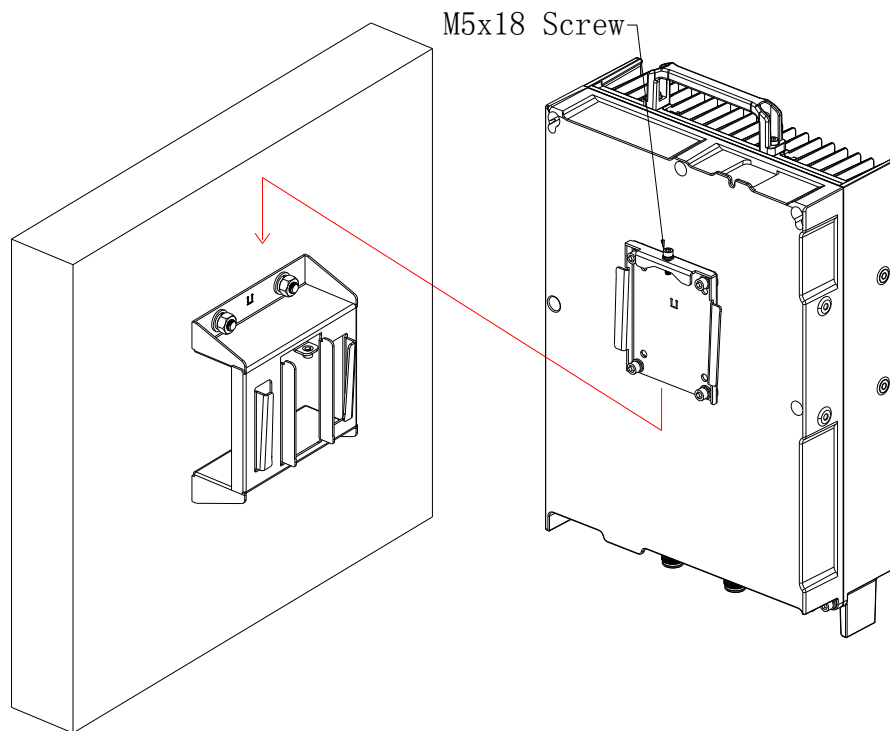
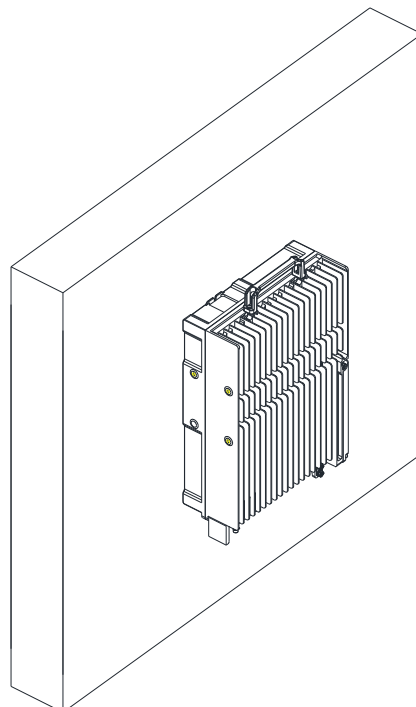

Figure 7 Wall-mounting Installation Diagram
Figure 8 Wall-mounting Installation Complete Diagram
Step 4: put the RRH prepared previous in step 1 insert to the mounting bracket 2, and lock the device with M5x18 screw, as shown in Figure 7. And Figure 8 illustrated the installation complete diagram.